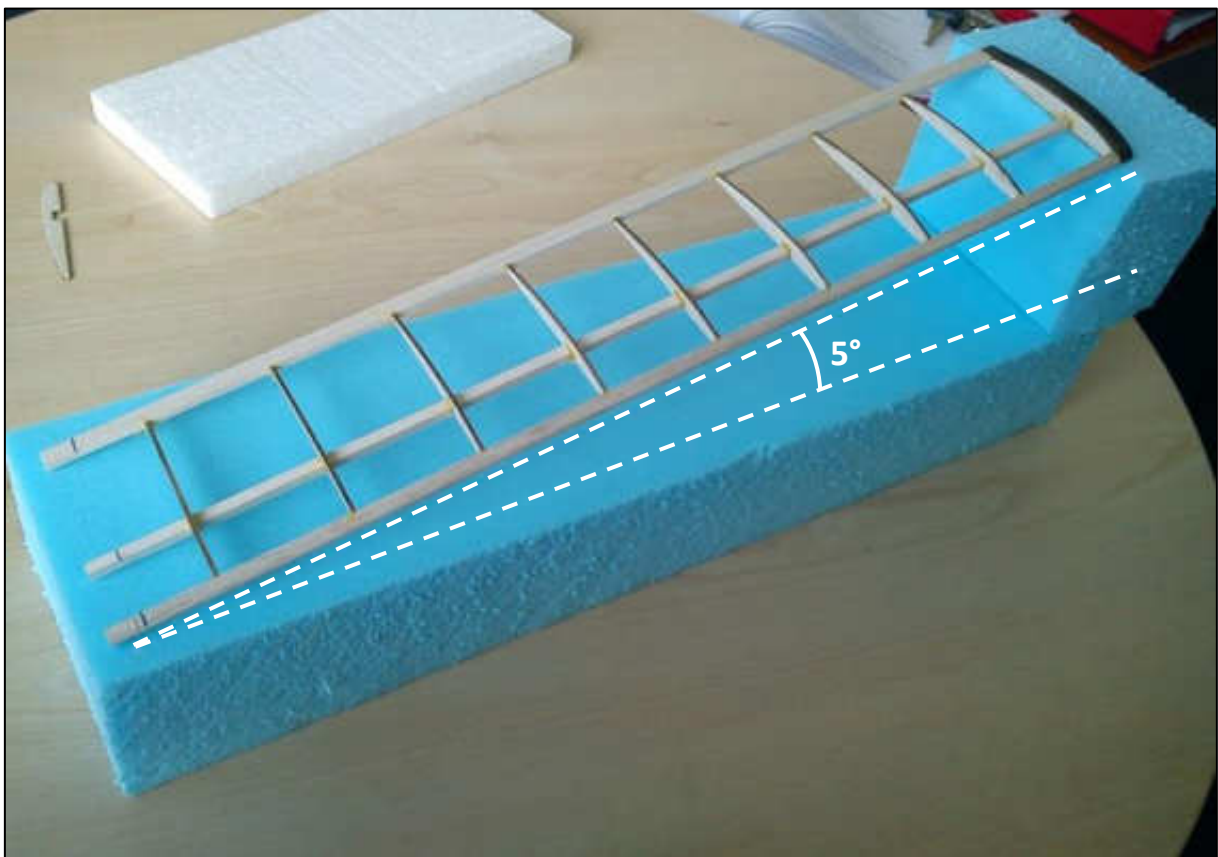

Figure 7: Raise the wing tip by 5° .
- Use trigonometry to raise the wing by tip 5° . Note that the angle is steeper in Figure 7 but you should use 5° for your design.